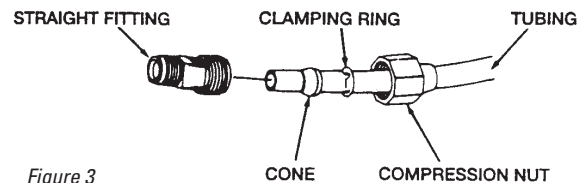

Figure 3
8. Slide compression nut onto cold water faucet tubing with threads facing cut end. Slide clamping ring (taper facing cut end) onto tubing and then slide cone (taper facing cut end) onto tubing. Wet tubing end for lubrication and then insert tubing fully into straight fitting. Slide down cone and clamping ring and secure in position by fully tightening compression nut. Repeat this procedure securing water supply line to elbow fitting. If water supply line is too short to be directly connected, cut supplied tubing to proper length and use supplied coupling, compression nuts, clamping rings and cones to make final connection. (Figure 3)